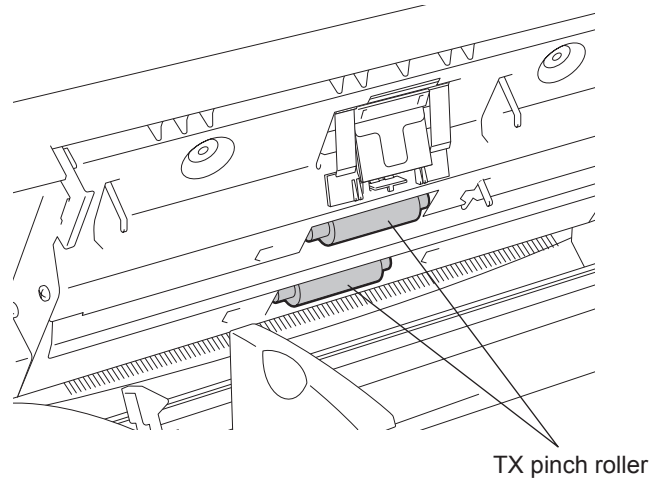

Fig. 10-5
- 4) TX pinch roller (P.10-6 "Fig. 10-5")